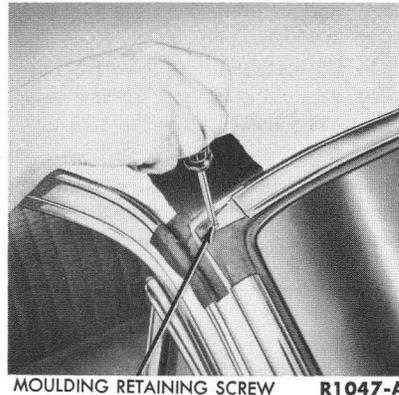

FIG. 13—Windshield Top Moulding
3. Remove the top moulding retaining screws (Fig. 13).